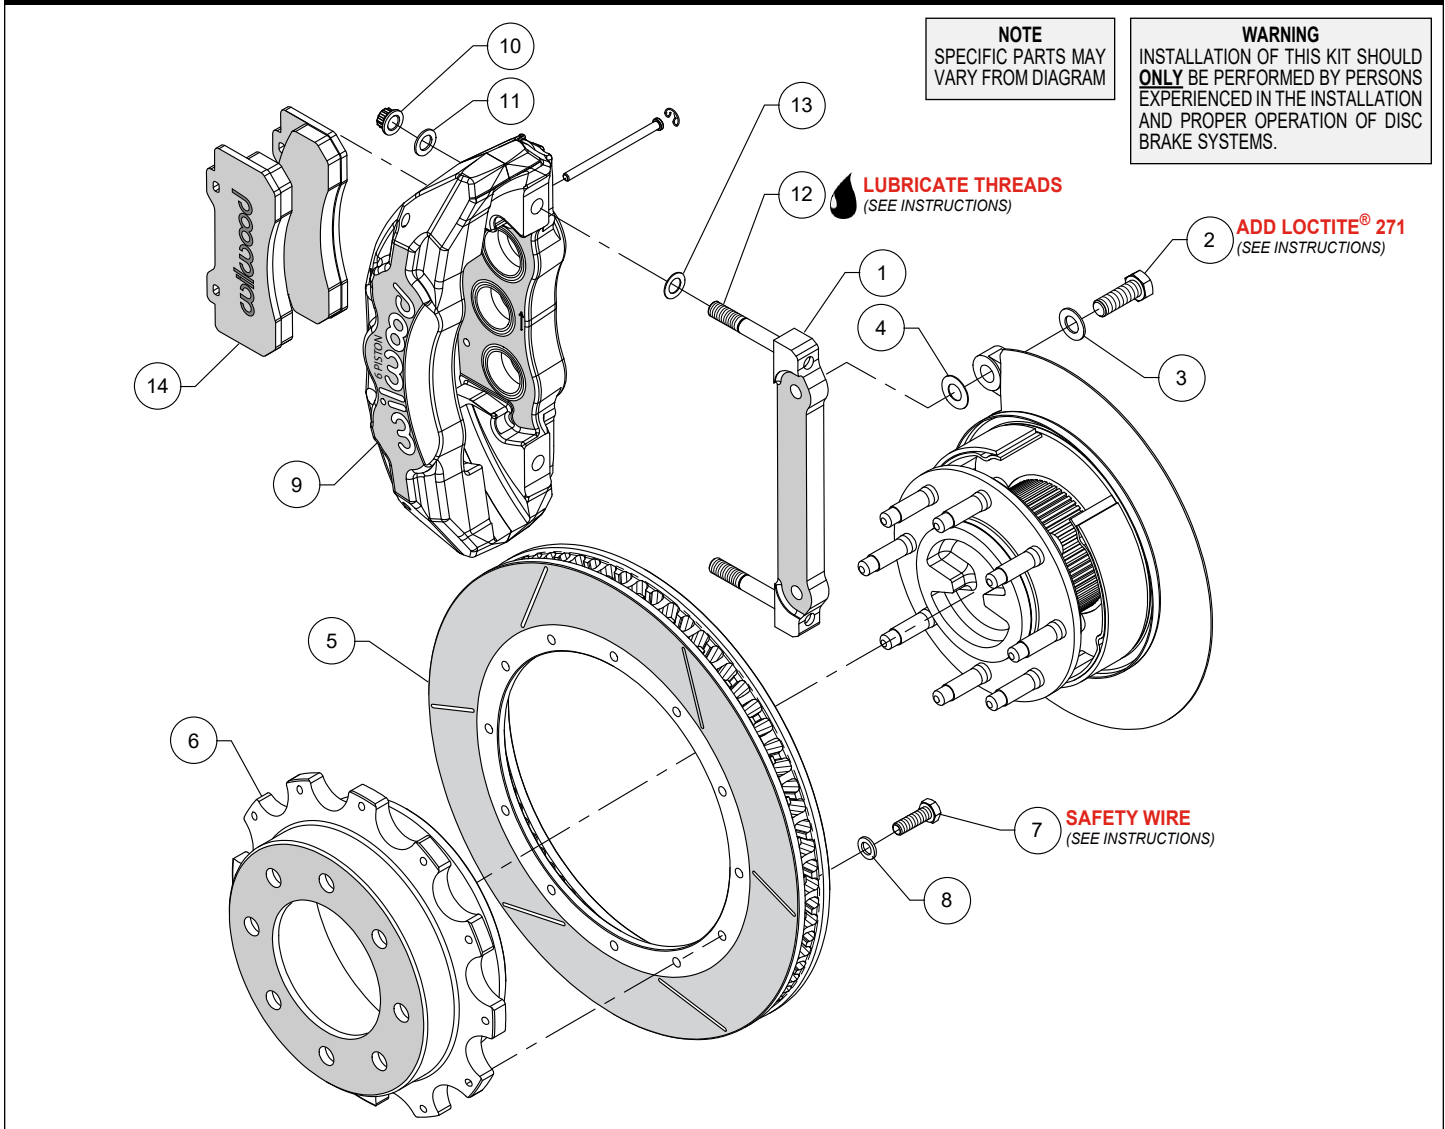
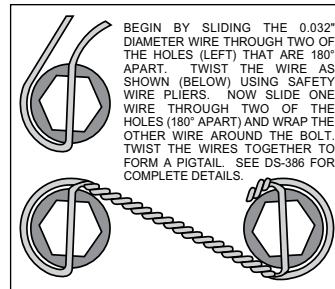

Figure 1. Typical Installation Configuration
Figure 3. Safety Wire Diagram
**NOTE:** Numbers in parenthesis refer to the parts list and Figure 1 on the preceding pages.
- The caliper mount bracket (1) should initially be installed with clean, dry threads on the mounting bolts. Orient the bracket as shown in Figure 1 and Photo 1, and install using bolts (2) and washers (3). Initially place one .029 thick shim (4) on each bolt between the bracket and upright, Figure 1. Temporarily tighten the mounting bolts. **NOTE:** *The bracket must fit squarely against the mount bosses on the upright.* Inspect for interference from casting irregularities, machining ridges, burrs, etc. Later, after the caliper alignment has been checked, the mount bolts will be secured using red *Loctite*® 271.
- Orient the rotor (5) and the hat (6) as shown in Figure 1 and Photo 2. Attach rotor to hat using bolts (7) and washers (8). Apply red *Loctite*® 271 to the bolt threads and torque to 25 ft-lbs using a criss-cross pattern. The bolts must be safety wired using standard 0.032 inch diameter stainless steel safety wire as shown in Figure 3. Please refer to Wilwood's data sheet DS-386 (available at [www.wilwood.com/Pdf/DataSheets/ds386.pdf](http://www.wilwood.com/Pdf/DataSheets/ds386.pdf)) for complete safety wire installation instructions.
- NOTE:** *This kit contains distinct right and left hand calipers that must be mounted in a specific direction, as described below.* Lubricate the caliper mounting studs (12) with lightweight oil. Initially place one .032" thick shim (13) on each stud as shown in Figure 1 and Photo 3. Mount the caliper (9) onto the bracket (1) using lock nuts (10) and washers (11), Figure 1. Ensure that the caliper is mounted so that the largest pistons are at the rotor exit end of the caliper, in relation to the direction of rotor rotation. Temporarily tighten the lock nuts and view the rotor through the top opening of the caliper. The rotor should be centered in the caliper, Photo 4. If not, adjust by adding or subtracting shims (4) between the bracket and the upright. Always use the same amount of shims on each of the two mounting bolts. Once the caliper alignment is correct, remove the bracket mounting bolts (2) one at a time, apply red *Loctite*® 271 to the threads, and torque to 77 ft-lb.